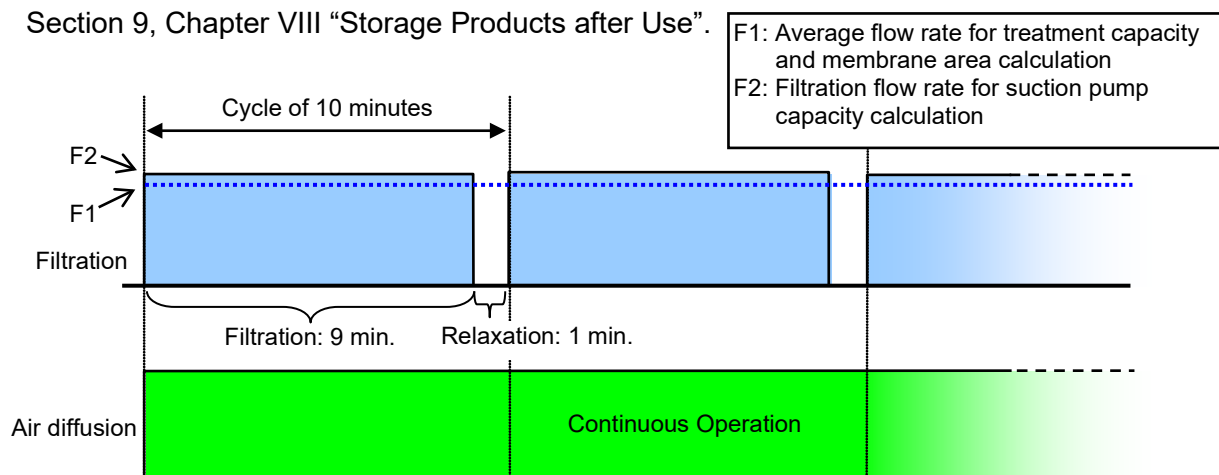

Fig.IV-1 Recommended Time Chart for Intermittent Filtration
Usually intermittent filtration (filtration with relaxation) is recommended. **The most common mode of filtration operation is nine (9) minutes of filtration followed by one (1) minute of suspended membrane filtration (membrane relaxation) with continued air scour**, as shown in Fig.IV-1. This period of relaxation, with no filtration, allows the continued air scour to be more effective at removing solids that may have accumulated on the surface of the membrane. Intermittent filtration followed by a relaxation period is recommended for stable and efficient membrane filtration.